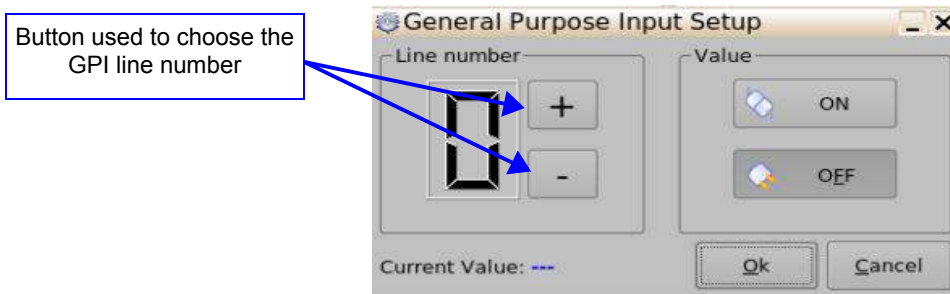

Figure 30: General Purpose Input Setup Window
- The General Purpose Input Setup window will be prompted (Figure 30).